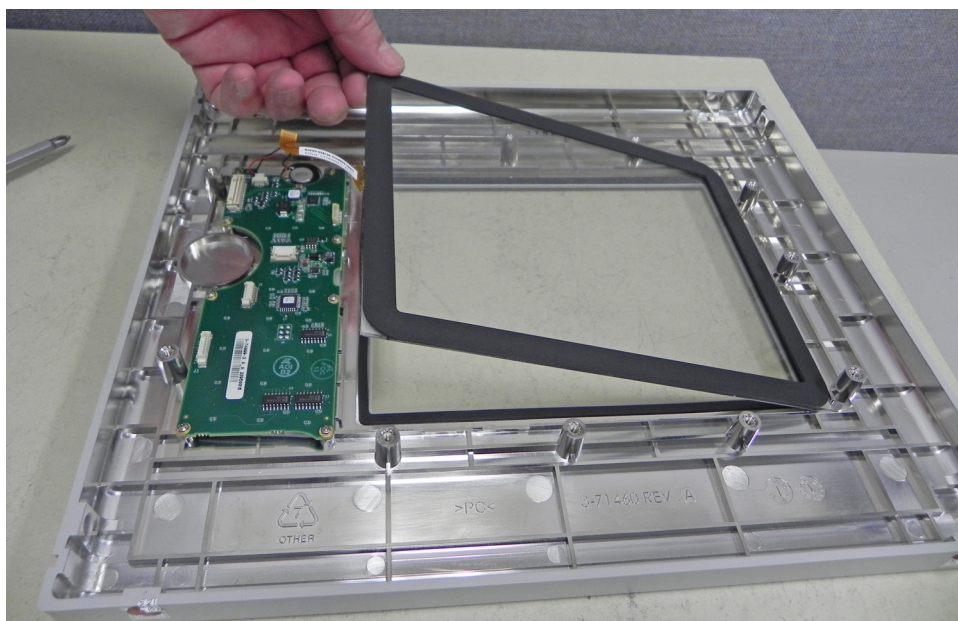

Figure 5-27. Remove Touch Screen
6. Carefully remove the touch screen. Re-seat the gasket on the front side of the touch screen if it is displaced during removal (Figure 5-27).